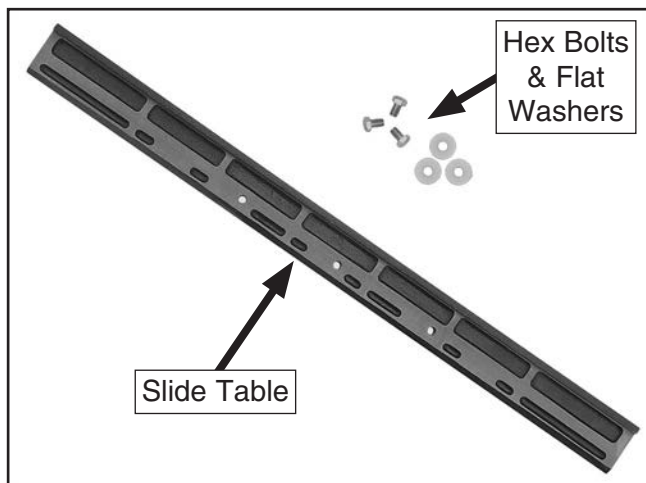

Figure 16. Slide table dismantled.
3. Then place the slide table on a flat surface and remove the three hex bolts and flat washers, as shown in **Figure 16**.